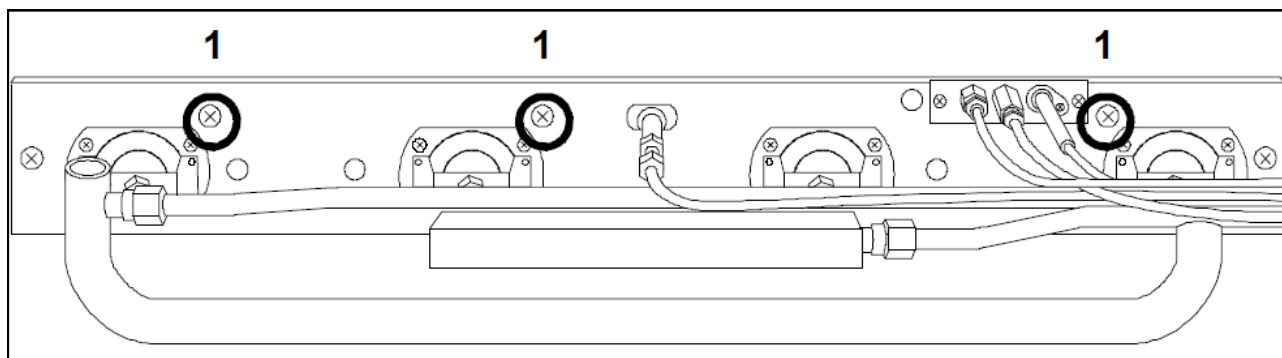

FIG.17 (REPLACEMENT DU BRÛLEUR D'ALLUMAGE)
-DÉVISSER LES 3 VIS DE FIXATION DES SUPPORTS DU BRÛLEUR (FIG.17-RÉF.1);